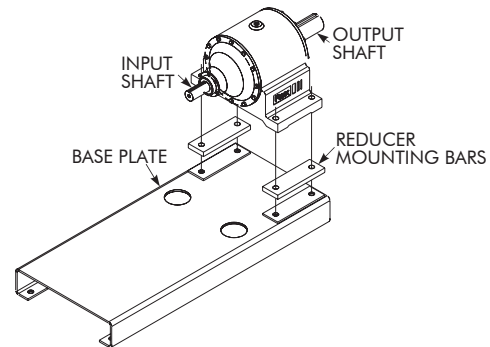

Figure 2A — Aligning Reducer Mounting Bars to Baseplate Holes
1. Align the reducer mounting bar holes to mounting holes in the baseplate. Reference Figure 2A.